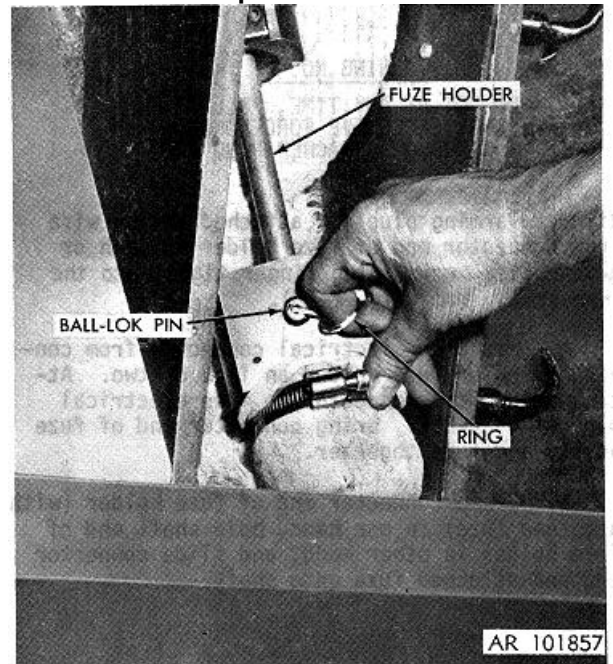

Figure 2-26. Removing ball-lok pin from fuze holder.
b. Lift fuze holder up from its resting place in fuze compartment and pull the ring attached to ball-lok pin to remove pin (fig. 2-26).